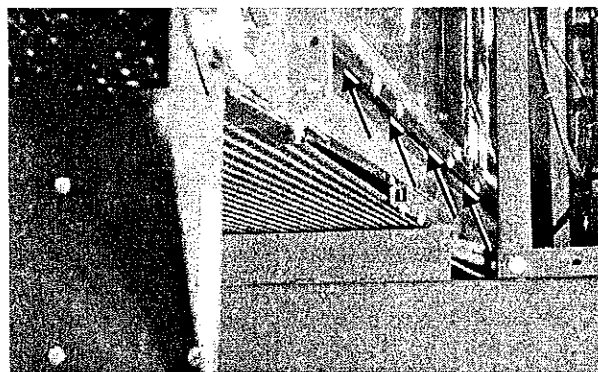

Figure 16. Relief Area That Must Be Kept Clear for Proper Conveyor Operation.
**Checking Conveyor Relief Areas** - A common cause of field problems occurs when material works its way under the conveyor belt and interferes with proper conveyor operation. The conveyor is designed with a relief area to let this material fall from the conveyor; however, the operator must check and clean the relief area frequently. The relief area that must be checked and cleared is shown in Figure 16. Additional information and explanations are included in the **Maintenance and Adjustment** section of this Manual.